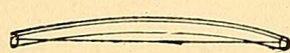
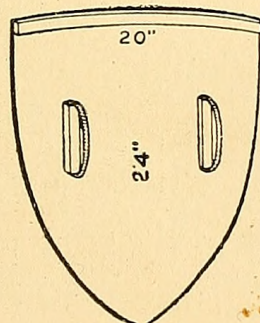

FIG. 525.
FIG. 526.
**The Shield.** Make a bow out of a narrow stick, bending it so there will be a distance of 2 inches between the center of the stick and the bowstring (Fig. 525), then cut the shield out of a piece of heavy cardboard to the dimensions given in Fig. 526 and tack it to the bow. Cut two blocks of wood 4 inches long, and fasten a piece of twisted wire to the ends of each with screws (Fig. 527) for the arm and hand straps; wrap the wire with cord (Fig. 528), and tack the shield to these blocks. Remove the bowstring and cut off the ends of the bow
FIGS. 525 to 528. — Details of Shield. FIG. 529. — Sword.